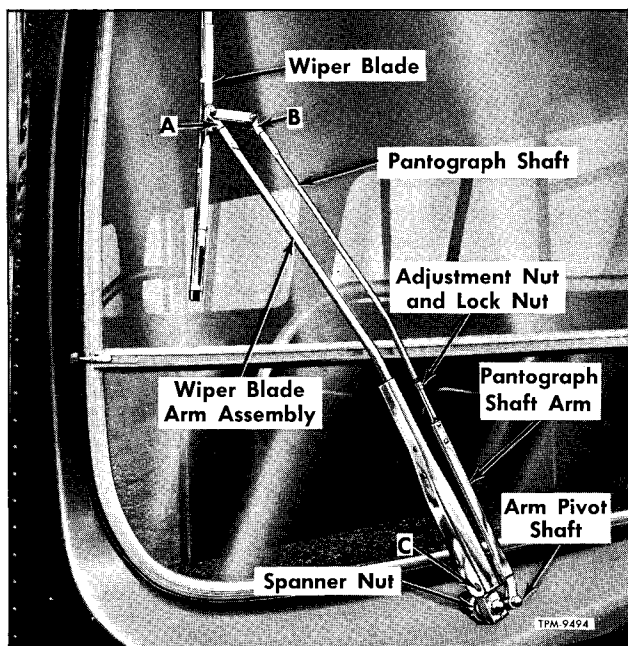

Figure 15—Windshield Wiper Arm and Blade Installed
Service repair kits are available for arm tip and bushing assemblies ("A" and "B," fig. 15) and the arm bushing and rivet assembly ("C," fig. 15). Repair instructions are included in kit "C."
WIPER BLADE ANGLE ADJUSTMENT (Fig. 15)
setting wiper blade angle. Each blade should travel across windshield in a position so that when the arm is at the end of its outward sweep, the wiper blade should be parallel with edge of windshield as shown in figure 15. If necessary, adjust angle of blade as follows:
1. Loosen lock nuts on pantograph shaft (fig. 15).